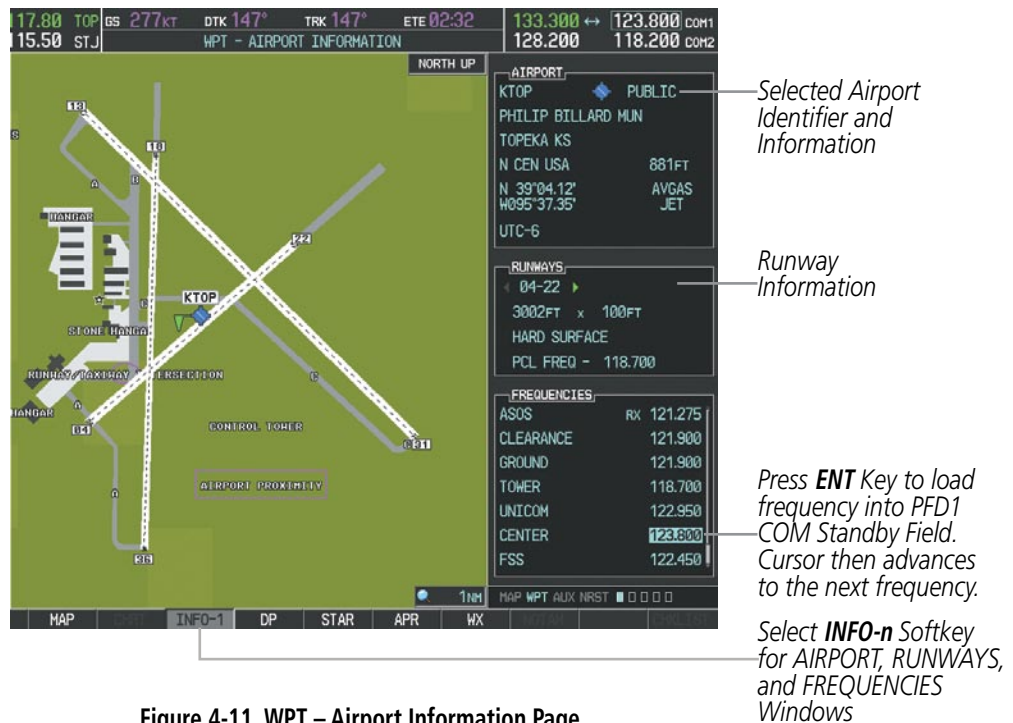

Figure 4-11 WPT – Airport Information Page
- 2) Turn the **FMS** Knob to place the cursor on the desired COM frequency (Figure 4-11).